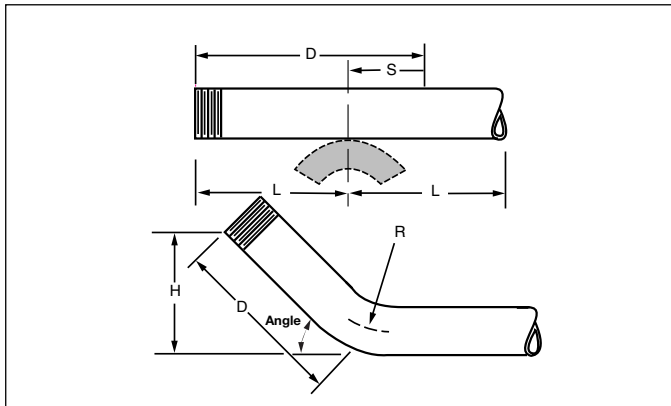

Figure 6
3. Mark off measurement (**S**) on pipe as illustrated in Figure 6.
Marks (**B**) cannot be closer to ends of pipe than distance (**L**) or ends will not be supported on the pivot shoes (see Figure 6, Example 3 and "L" Requirement Chart 5).